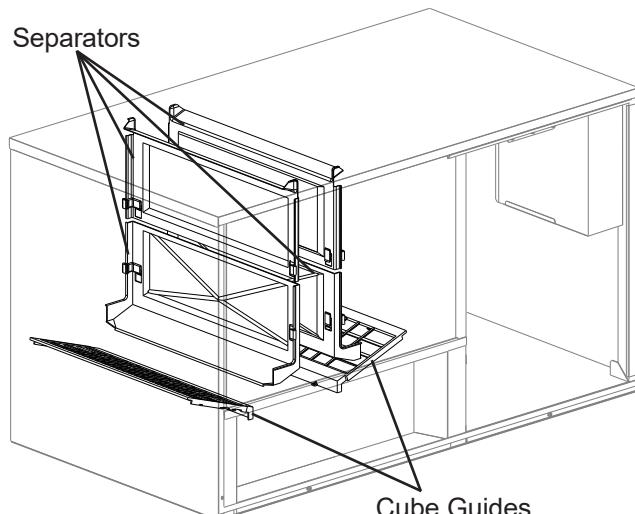

Fig. 9
- 4) Have the shipping carton, tape, and packing material been removed from the icemaker? Are the cube guides in their correct positions? See Fig. 9. Are the separators between the evaporator banks properly attached to their holding clips?